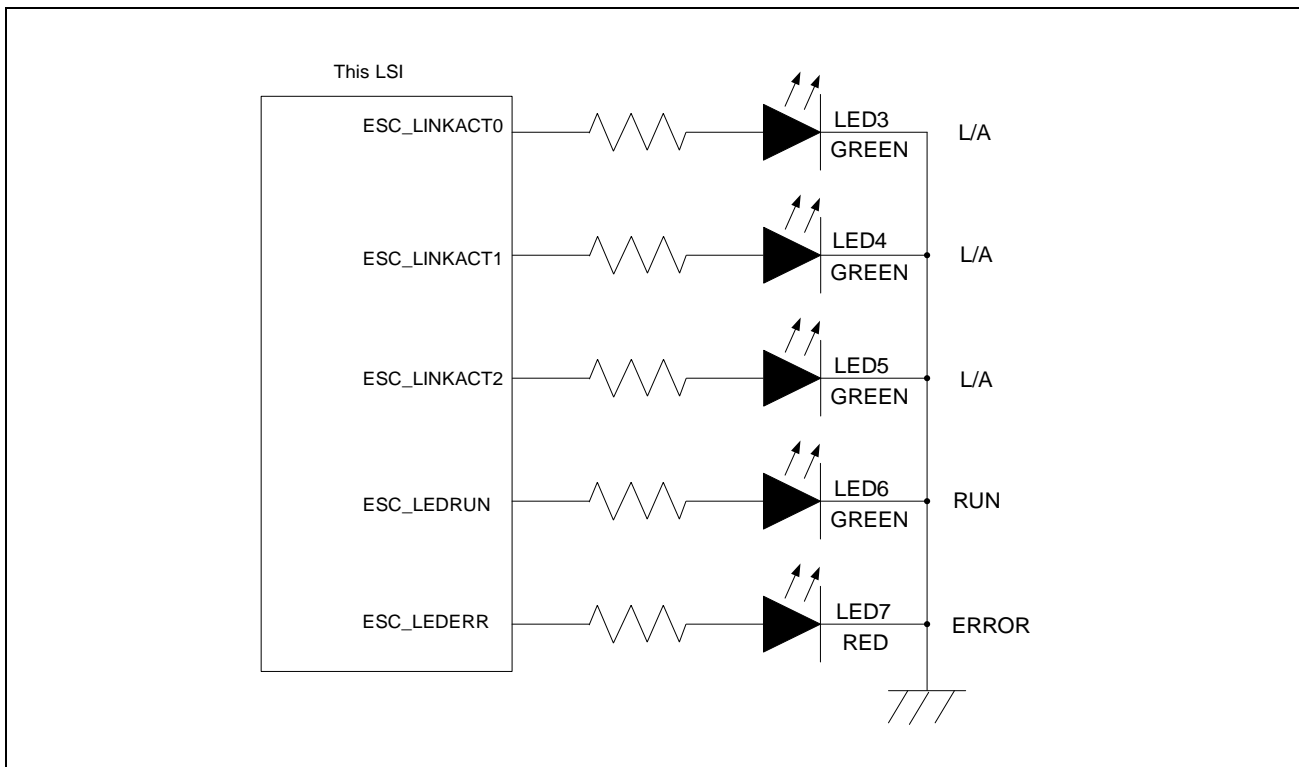

Figure 5.5 Example of LED connections of the ESC
**Figure 5.5** shows an example of LED connections of the ESC. For details, refer to the ETG document “ETG.1300 Indicator and Labeling”.